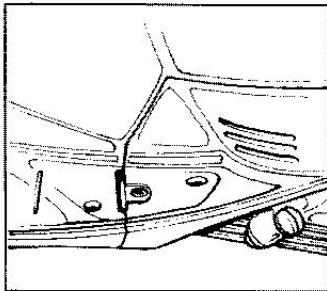

Fig. 2
- Remove the lower side panel (as shown in fig. 2).